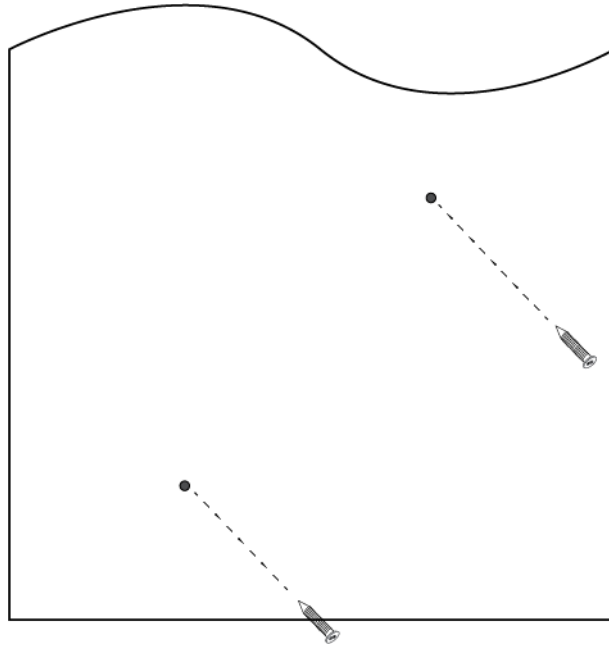

Figure 13. Installing Two Screws
5. Install two M4 screws and anchors (if required). Leave the screws loose enough so that the bracket can slide under the screw heads. Refer to Figure 13.